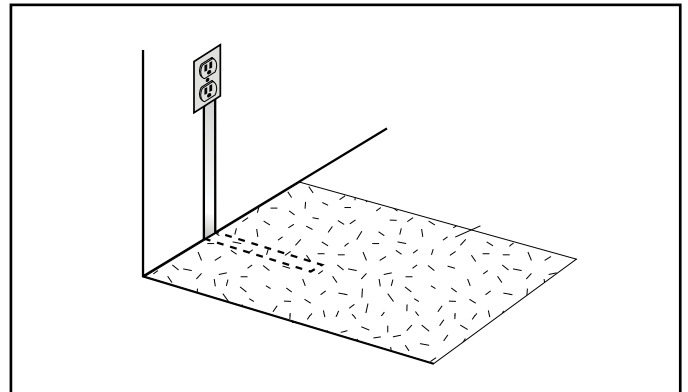

Figure 4. Properly grounding a copper ground strip.
To ground the floor use 81524 copper foil strips supplied by Statguard Flooring. Ground strips should be installed over the adhesive and under the tiles. Identify the proper locations for the strips, typically along the base of walls or at columns where there is access to a grounding point (e.g., electrical outlet). Install one (1) ground strip for each 1,000 square feet of floor area. Apply each strip using the adhesive side to stick about two-thirds of the strip to the floor surface and the remaining one-third vertically up the wall or column. An electrician should mechanically connect the copper foil to a ground point. (See Figure 4.)
In Figure 4. A copper strip 1 to 3 feet long is placed in conductive adhesive, prior to covering with esd flooring. Then the copper strip is used as a “pig tail” going up the wall and terminated at the electrical outlet, grounding bus or multi point.